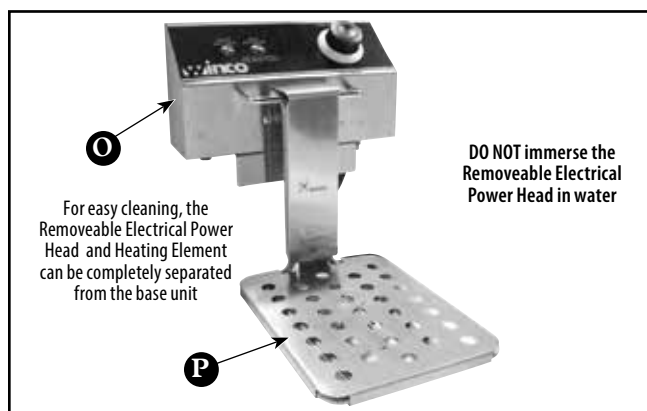

Figure 7. Preparation for Cleaning the Unit
4. Remove the Electrical Power Head (O). (Figure 7)